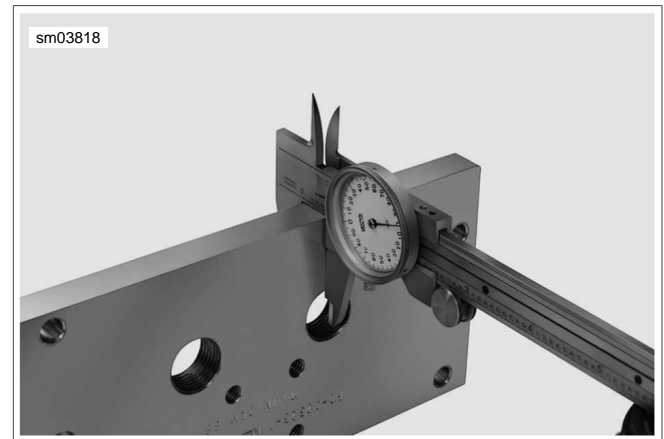

Figure 3-117. Measure Thickness of Support Plate
- a. See Figure 3-117. Using a dial caliper, measure thickness of support plate.